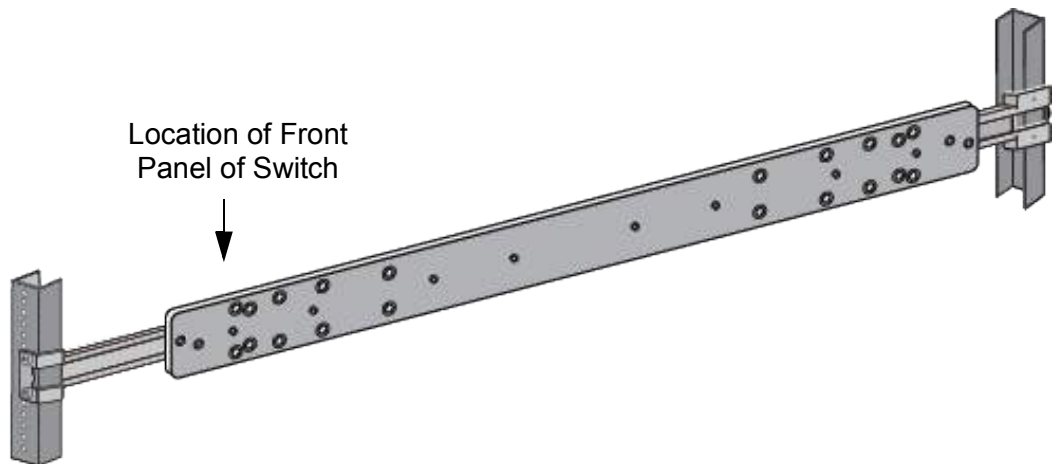

Figure 87. Example of Positioning the Inner Rail
2. Position the inner rail at the planned location for the front panel of switch in the sliding rack. Refer to Figure 87.